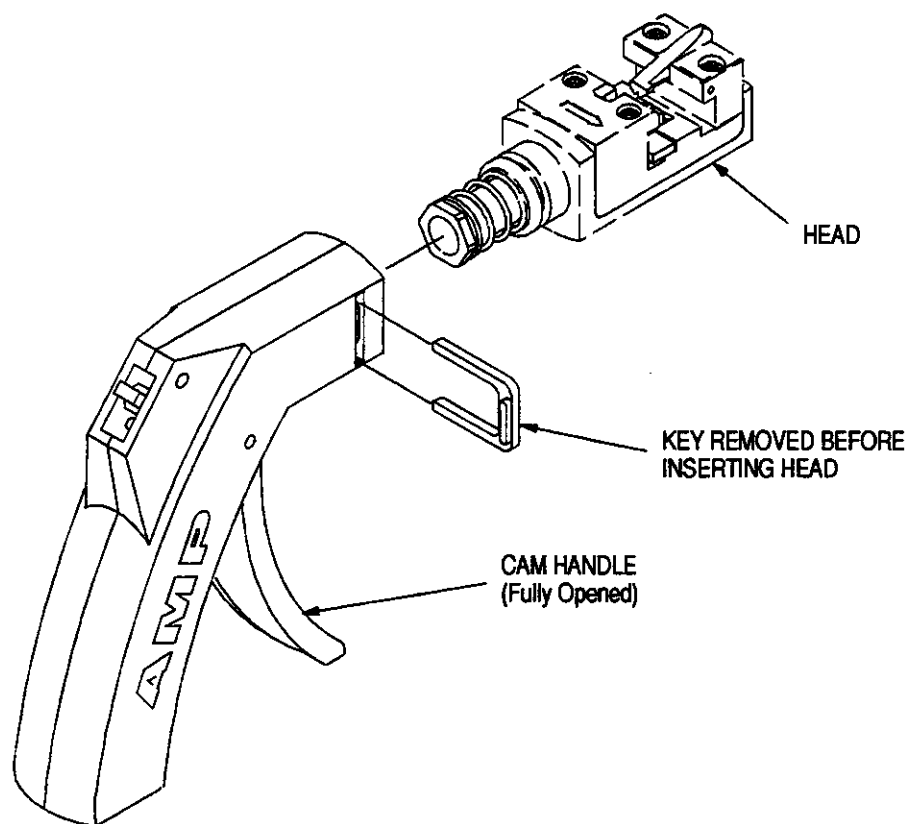

Figure 2
1. Position the tip of a screwdriver between the shoulder of the key and the tool body. Pry the key out of the tool. See Figure 2.
2. With the cam handle FULLY opened, insert the head into the tool until it bottoms. See Figure 2.
2. Make sure all components are in place and are properly secured. See Figure 2.